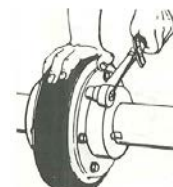
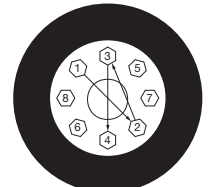

Figure 6
Figure 7
- Hold split of flexible element closed as shown in Figure 6. Tighten (finger tight) one or two screws 180° from split. Using both hands, knead the tire pulling it toward the split. Hold split closed and tighten (finger tight) the next two screws farthest from the split. Repeat the procedure on all remaining clamp ring screws. Use a torque wrench to tighten each clamp ring screw in succession to the torque specified in Table 1. Using a torque wrench, recheck all
- Optional Procedure: Hold split of flexible element closed as shown in Figure 6. Tighten (finger tight) one or two screws 180° from split. Using both hands, knead the tire pulling it toward the split. Hold split closed and tighten (finger tight) the next two screws in a star or cross pattern as shown in Figure 7. Repeat the procedure on all remaining clamp ring screws. Use a torque wrench to tighten each screw to the torque specified in Table 1. Using a torque wrench, recheck all clamp ring screw torque values before coupling operation.